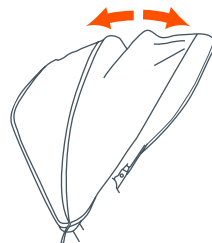

Fig. 8
- To open the canopy:** push forward on the front edge of the canopy while holding the rear of canopy in place (Fig. 8).
- To fold the canopy:** pull backwards on the front edge (Fig. 8).